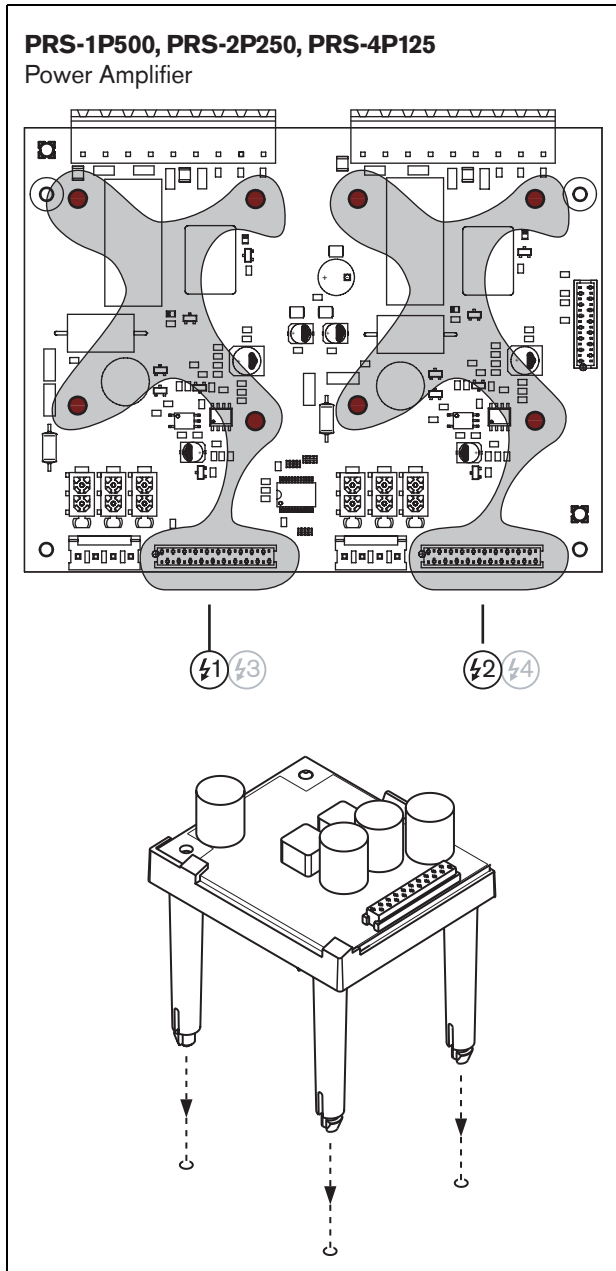

figure 12.4: Installation
- 1 Remove the lid from the power amplifier and locate the output board (see figure 12.4).
- 2 Snap the supervision control board on the 'table' bracket (see figure 12.4).